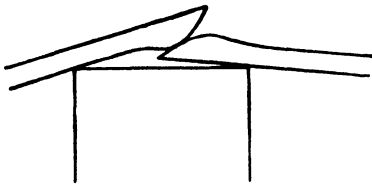

FIG. 40
11. When separate pieces are to be welded, place both pieces in the fire, scarf up. Cover the ends over with live coals and turn on the blast. Remove the pieces frequently to see that both are at the same temperature. If one is hotter than the other, remove the hottest one until the other catches up. When the stock begins to look molten turn it over quickly, scarf down. Leave it in this position, turn off the blast and allow the stock to soak for a few seconds. Remove both pieces at the same time, the shorter piece with the right hand, strike on the edge of the anvil to knock off the scale, and lay the end of the piece held in the right hand near the center of the anvil, scarf up and pointing toward you. Rest the other piece on the edge of the anvil with enough stock extending above the face of the anvil, so that when it is lowered the point of one scarf will come even with the heel of the other. Fig. 40. Lower the piece until the surfaces are in contact. Drop the tongs held in the right hand, grasp the hammer and deliver very light blows followed by heavy blows until the pieces are firmly united. Hammer on all the sides of the weld while the stock